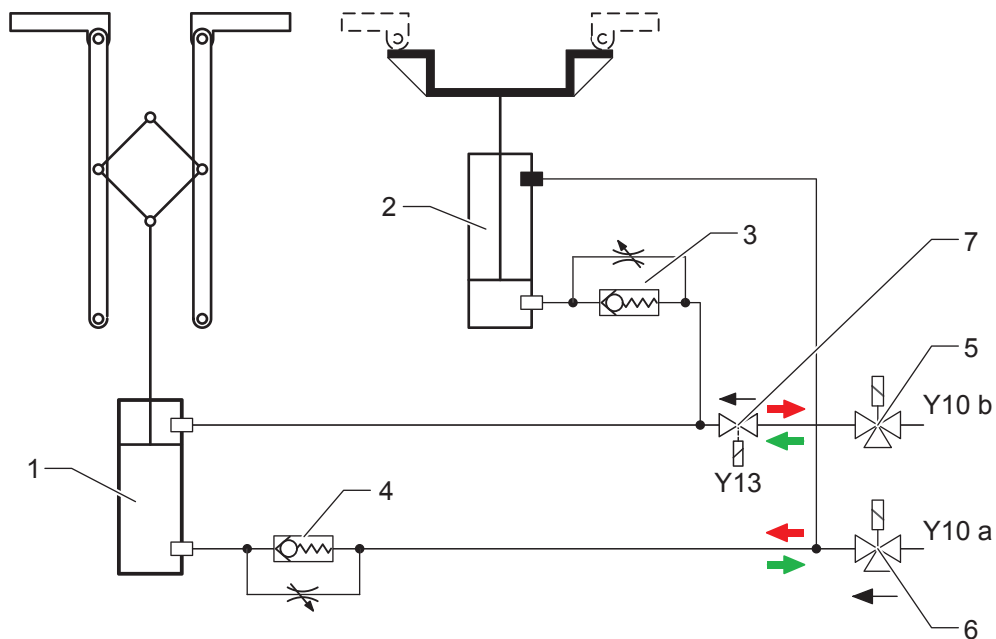

Fig. 10: Function diagram of the scissor mechanism, locking ring open
- Remove the hoses on both locking cylinders (see Fig. 10: unterhalb) and press the locking cylinders manually.